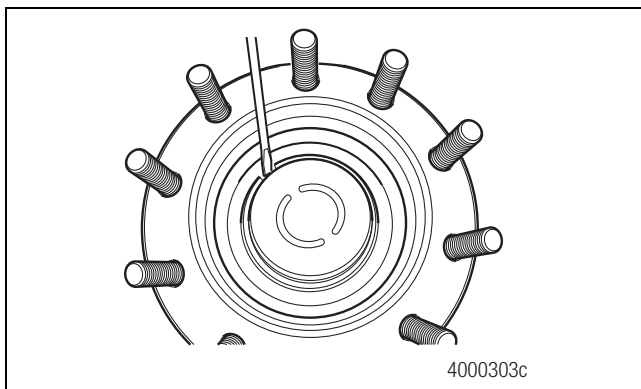

Figure 4.4
- A. For snap-ring hubcaps, insert a screwdriver into the notched end of the snap ring. Figure 4.4.